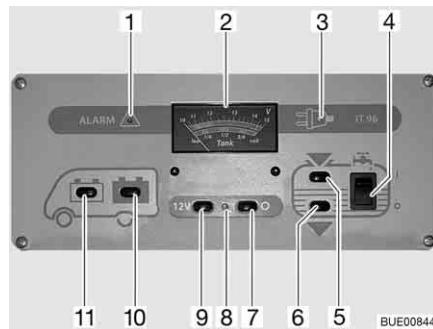

Fig. 161 Panel IT 96-2
The 12 V main switch (Fig. 161,7 and 9) switches the panel and the 12 V power supply to the living area on and off.
Switching on: ■ Press switch (Fig. 161,9) "12 V": The 12 V living area power supply is switched on. The indicator lamp (Fig. 161,8) lights up green.
Switching off: ■ Press switch (Fig. 161,7) "O": The 12 V living area power supply is switched off. The indicator lamp (Fig. 161,8) goes out.
With the V/tank gauge (Fig. 161,2), note the top scale. The gauge automatically lights up as soon as a switch is pressed.
- Press switch (Fig. 161,11) : The battery voltage of the starter battery is displayed.
- Press switch (Fig. 161,10) : The battery voltage of the living area battery is displayed.
The V/tank gauge is for the indication of the quantity of water or waste water. With the V/tank gauge (Fig. 161,2), use the bottom scale. The gauge automatically lights up as soon as a switch is pressed.
- Press switch (Fig. 161,5) "": The volume of water is displayed.
- Press switch (Fig. 161,6) "": The volume of waste water is displayed.
- Press the upper part of the rocker switch (Fig. 161,4) "I": The water supply is ON.
- Press the lower part of the rocker switch (Fig. 161,4) "O": The water supply is OFF.
The red "ALARM" warning light (Fig. 161,1) flashes as soon as the voltage of the living area battery falls below 11 V (measured under operation) and there is a risk of a total discharge.
The 12 V indicator lamp (Fig. 161,8) illuminates whenever the 12 V main switch (Fig. 161,9) is switched on.
The yellow 230 V indicator lamp (Fig. 161,3) illuminates whenever line voltage is available at the transformer/rectifier input.